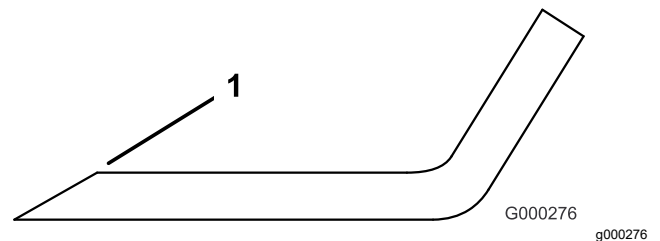

Figure 126
3. Examine the cutting edges of all of the blades and sharpen the cutting edges if they are dull or nicked (Figure 126).
Note: Sharpen only the top of the cutting edge and maintain the original cutting angle to ensure sharpness (Figure 126). The blade remains balanced if you remove the same amount of metal from both cutting edges.